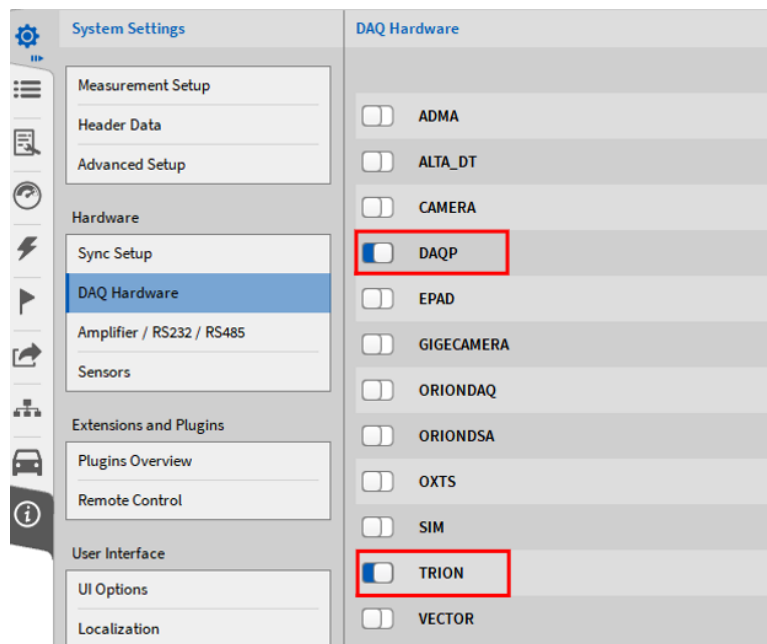

Fig. 4.39: Enabling DAQP and TRION hardware in the DAQ Hardware setup
- Go to the *DAQ Hardware* setup in the *System Settings* and make sure that the *DAQP Series* and the *TRION Series* are enabled (see Fig. 4.39). Changes take effect on application restart.